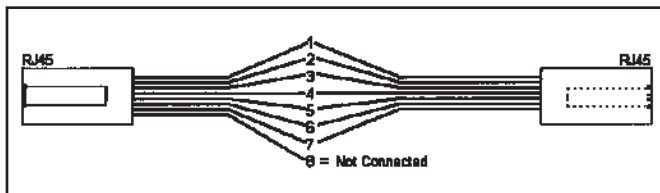

Figure 5. Data Cable
I. If using a TR2000 SmartHub along with the 94319, construct a data output cable. Refer to Figure 5.